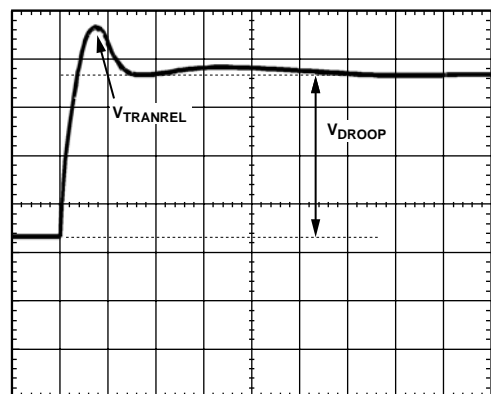

Figure 19. Transient Setting Waveform
- For load release (see Figure 19), if $V_{TRANREL}$ is larger than the allowed overshoot, there is not enough output capacitance. Either more capacitance is needed, or the inductor values need to be made smaller. (When changing inductors, start the design again using a spreadsheet and this tuning procedure.)